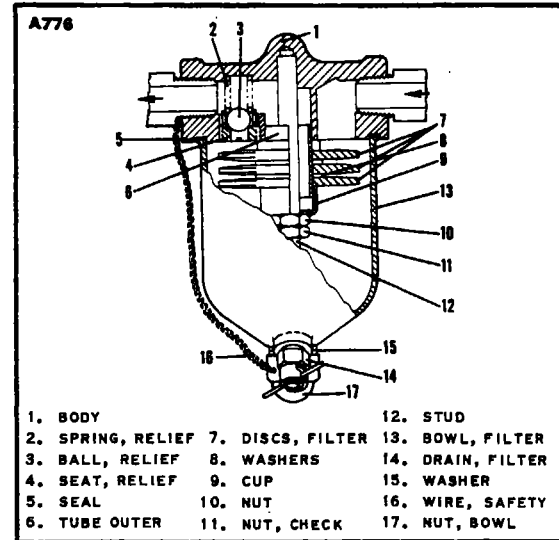

Figure 9-22. Fuel Filter
- 9-59. DISASSEMBLY OF FUEL FILTER ASSEMBLY. PA-23-250 (six place), Serial Nos. 27-2505 and up.) (Refer to Figure 9-22.)
- a. Cut safety wire (16) and remove the cap nut (17) from the bottom of the filter bowl (13).
- b. Take the bowl from the filter housing (1).
- c. The bowl gasket (5) may be removed from the housing,
- d. Loosen and remove both the check nut (11) and the nut (10) from the stud (12) that holds the filter cartridge subassembly.
- e. Slide the filter cartridge from the stud. The filter discs (7) and washers (8) need not be separated from the element outlet tube (6) for normal cleaning.
- f. If it is necessary to disassemble the filter cartridge, remove the retainer cup (9) from the outlet tube (5) and slide the discs (7) and washers (8) from the outlet tube. Do not use a screw driver or sharp tool that may damage the discs.
- g. The filter by-pass assembly may be removed by using the proper size screw driver and turning out the relief valve seat (4). Then remove the check ball (3) and spring (2).
9-60. CLEANING, INSPECTION AND REPAIR OF FUEL FILTER. (PA-23-250 (six place), Serial Nos. 27-2505 and up.) (Refer to Figure 9-22.)
9-61. ASSEMBLY OF FUEL FILTER. (PA-23-250 (six place), Serial Nos. 27-2505 and up.) (Refer to Figure 9-22.)